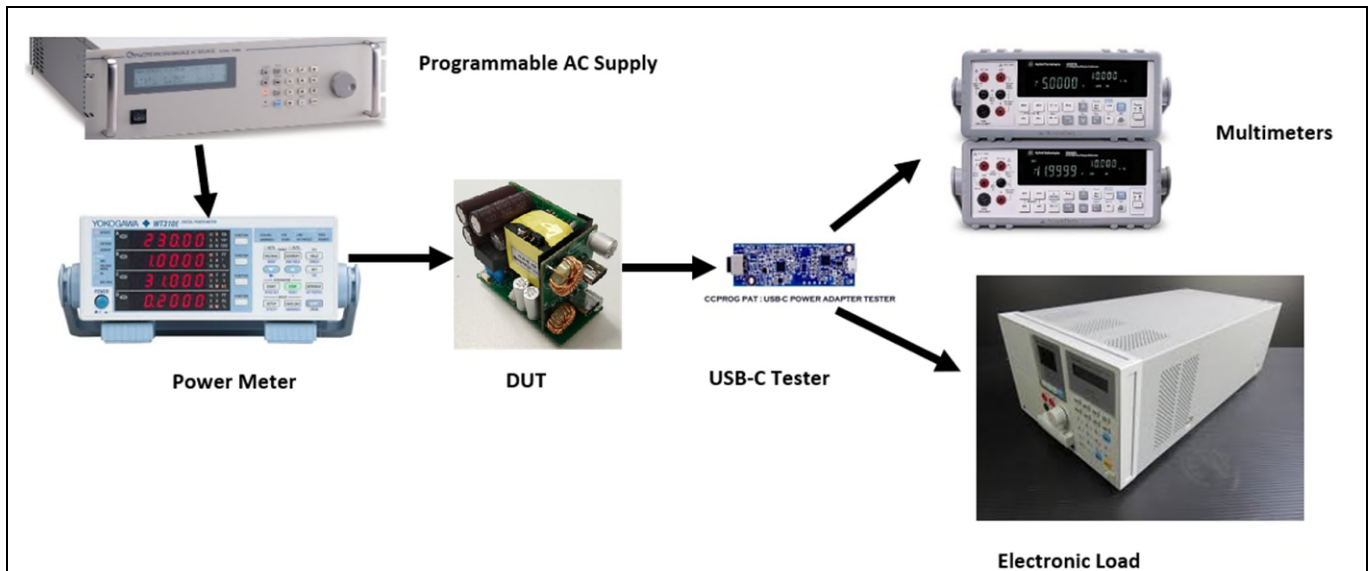

Figure 6 Test equipment connected to the standalone REF_65W_2C_GAN_PAG1 + CCG7DC 65W_2C with ATQ) board
Figure 6 shows the test setup to capture the electrical data of the DUT. The following setup is the optimal one to capture efficiency by capturing:
1. Connect the 65 W solution board to the power meter AC terminal (which is already connected to the programmable AC supply) as in Figure 6.
3. Connect the electronic load at the PAT tester load terminal as in Figure 6.